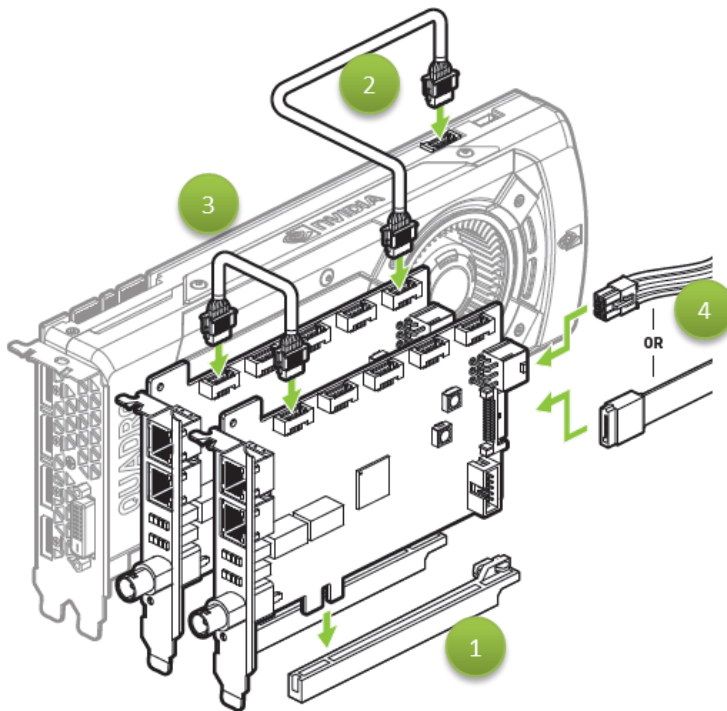

Figure 2. Installing and Connecting the Quadro Sync II Card
Use the following steps and Figure 2 to install the Quadro Sync II Card
2. Connect up-to four Quadro cards to the Quadro Sync II card GPU connectors ( in Figure 2) using the included cables.
3. Connect power to the Quadro Sync II card using either a 6-pin PCIe or SATA power cable ( in Figure 2).
5. Connect up-to four Quadro cards to the Quadro Sync II card GPU connectors ( in Figure 2) using the included cables.
6. Connect power to the second Quadro Sync II card using either a 6-pin PCIe or SATA power cable ( in Figure 2).
7. Connect one Quadro Sync II card to the other Quadro Sync II card ( in Figure 2) using the included cables between the Sync II connectors.